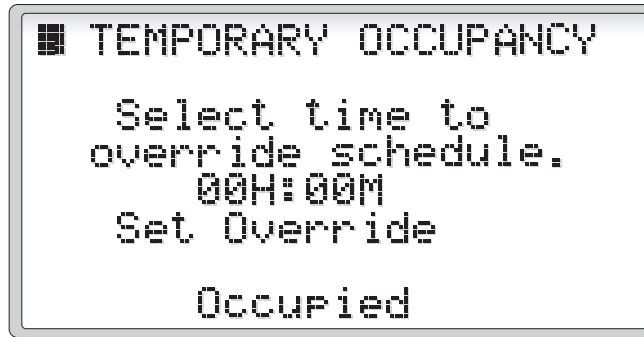

Figure 13
2.3.2.5 Temporary Occupancy (Figure 13)